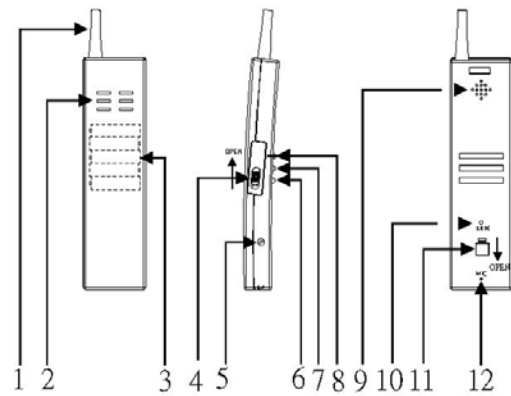
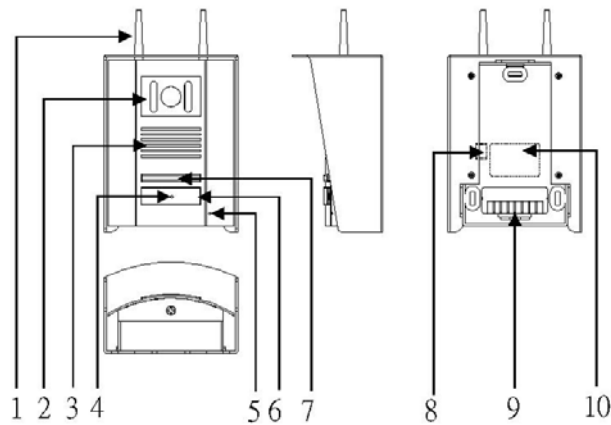

Fig.2
Fig. 3
Outdoor unit(Fig.3)	Handset (Fig.2)
LED indicator from the door station (see fig.2: point 4)
2. Basic mode with 6V access glass (not included in the set) See fig 3
3. Basic mode with 12V/24V (through 6V access glass) (6V access glass not included in the set) See fig.3
Following the wiring diagram (see fig.3), if 12/24V, door opening & Garage opening switch are available.
When 12V/24V is used, connect “-” to GND and “+” to the terminal AC/DC (see fig 3).